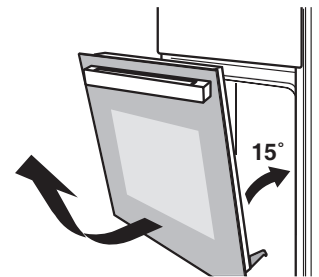

Figure 2
2.) Close the door to an angle approximately 15 degrees. Lift up and slowly pull the door out from the oven (Figure 2).